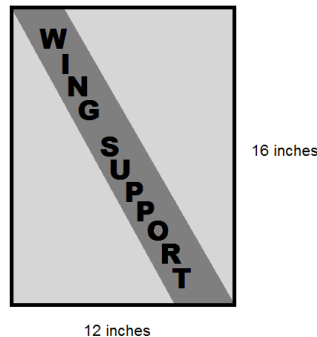

Figure 12
- C. The size of each may not exceed 12x16 inches dimensionally in size per piece. Refer to Figure 12.